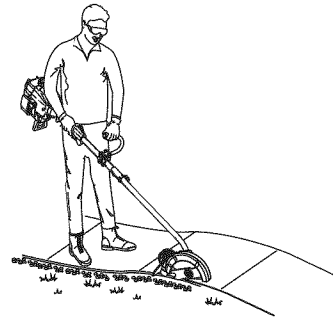

Fig. 4
- Stand in the operating position (Fig. 4).